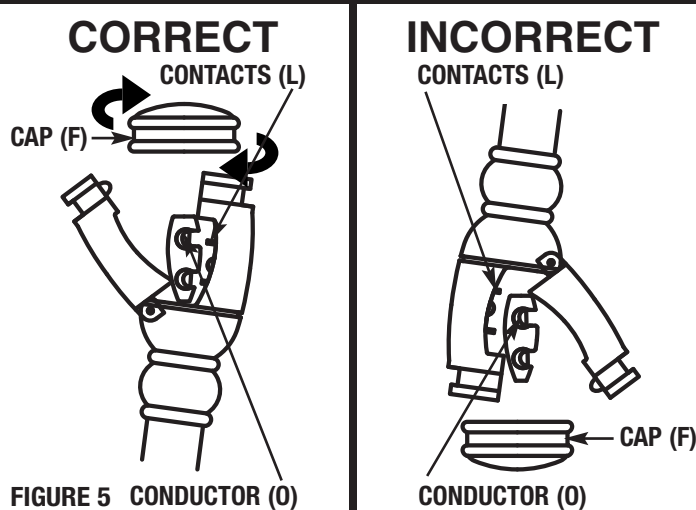

FIGURE 5
ATTACH FIXTURE TO RAIL (Fig. 5)
2. Unthread cap (F) from fixture rail adapter (X).
3. Making sure contacts (L) will align with conductors (O) on rail, set the bottom of the rail adapter to the bottom of the rail and "roll" the rail adapter (X) up onto the rail.
4. Install fixture to rail by closing rail adapter (X) over rail (see fig. 5) and threading cap back onto rail adapter (X) tightly.